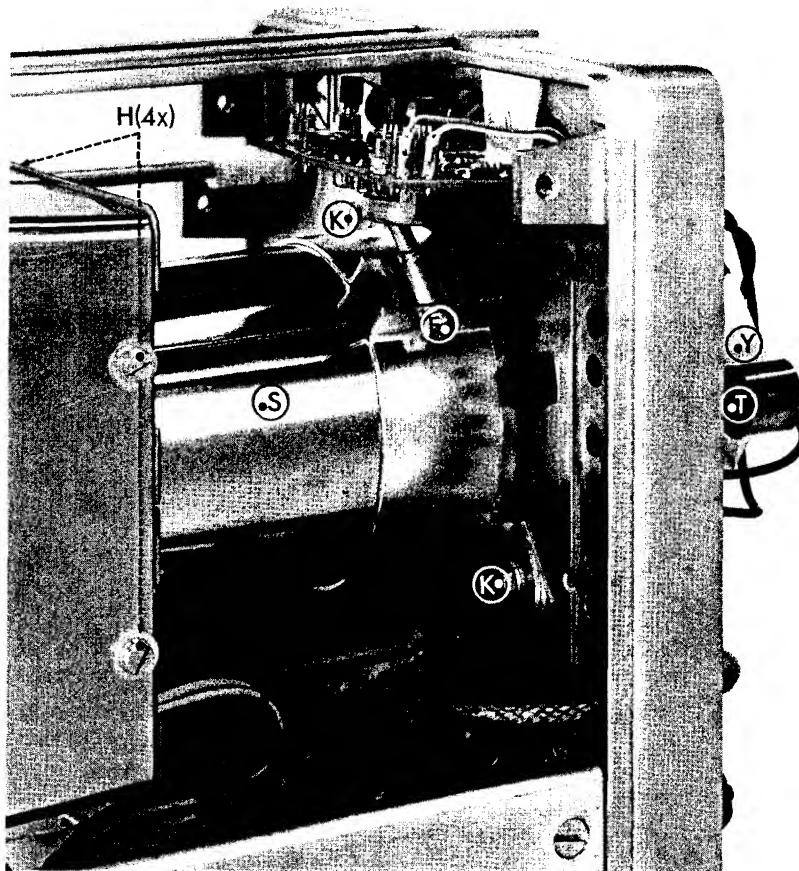

Fig. 3.23. Dismantling
- If necessary, remove valve holder, magnets and the yoke of the c.r.t. (Fig. 3.23. & 3.25.).